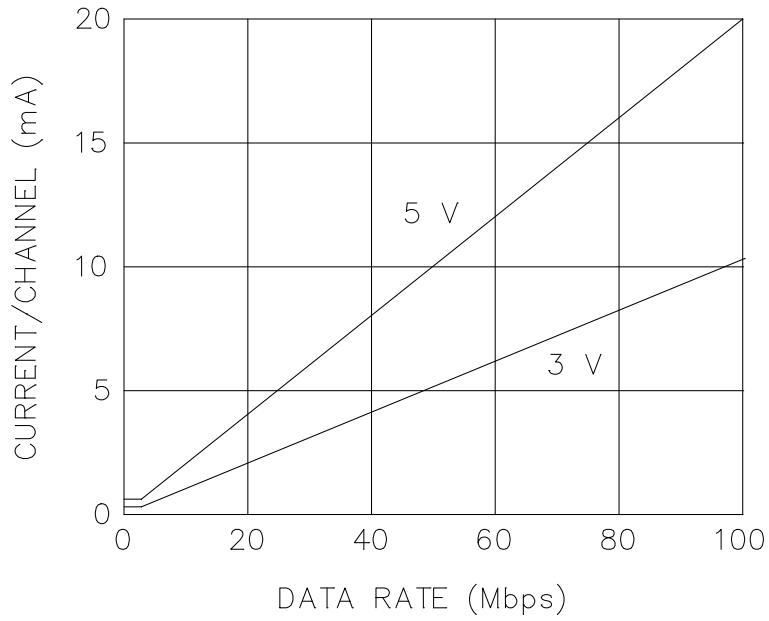
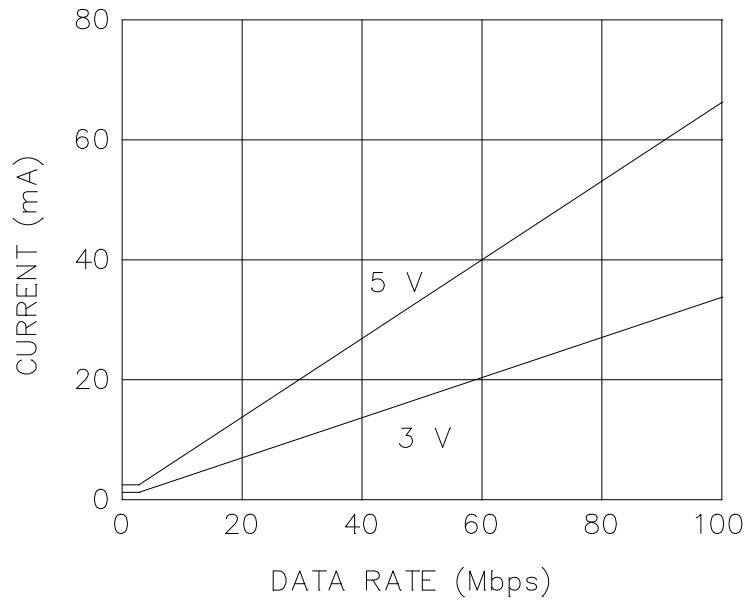

FIGURE 6. Typical input supply current per channel versus data rate (no load).
FIGURE 9. Typical VDD1 supply current versus data rate for 5 V and 3.3 V operation.
- 3/ The supply current values for all four channels are combined when running at identical data rates. Output supply current values are specified with no output load present. See figures 6 through 8 for information on per channel supply current as a function of data rate for unloaded and loaded conditions. See figures 9 and 10 for total VDD1 and VDD2 supply currents as a function of data rate for device channel configurations.
- 8/ Dynamic supply current is the incremental amount of supply current required for a 1 Mbps increase in signal data rate. See figures 6 through 8 for information on per channel supply current for unloaded and loaded conditions.